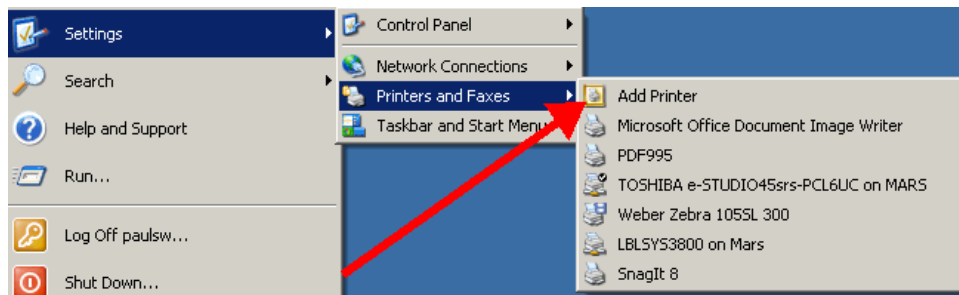

Figure 10
14. Open the Printers area of Windows. (Figure 10)